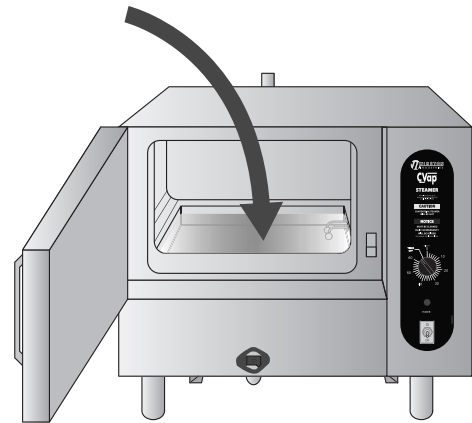

Figure 1
1. Prior to use, remove evaporator cover and fill evaporator with at least 2.5 gallons (9.5L) of potable water (max. capacity is 3 gallons (11.4L) (Figure 1).